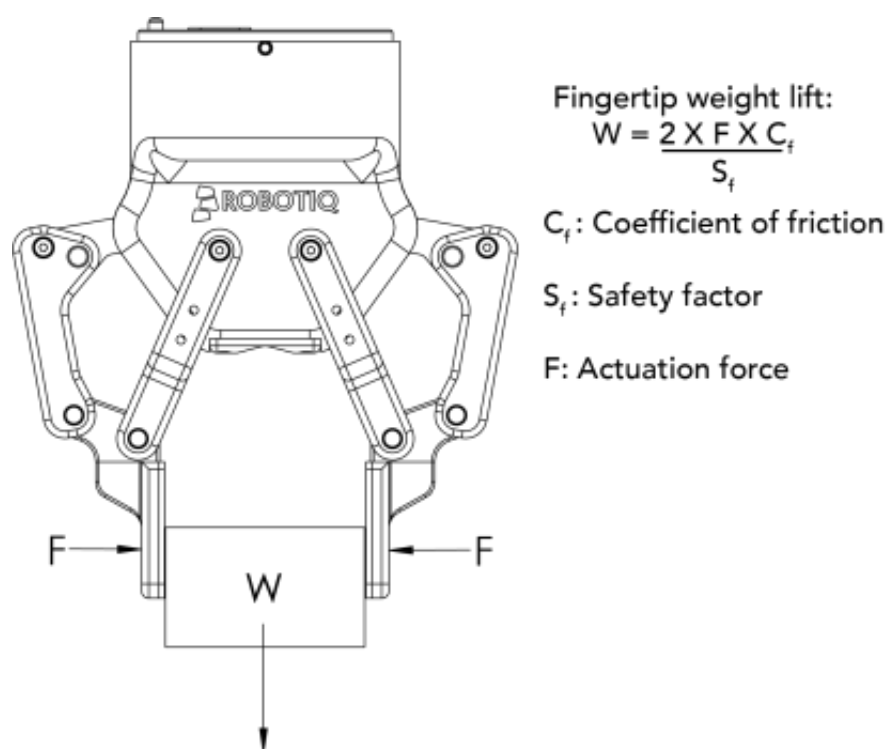

Fig. 6-18: Actuation force on the fingertip of the Adaptive Gripper 2-Finger (see charts below for 2-Finger 85 and 2-Finger 140 force).
- Fingertip must not exceed 100 mm in width from the fingertip's base (refer to Y axis from figure 6-18).
The user of the Gripper must always ensure that the result of the forces against the finger is always lower than the maximum holding force as seen in figure 6-18.
As defined in figure 6-18, the weight that can be lifted is defined by :